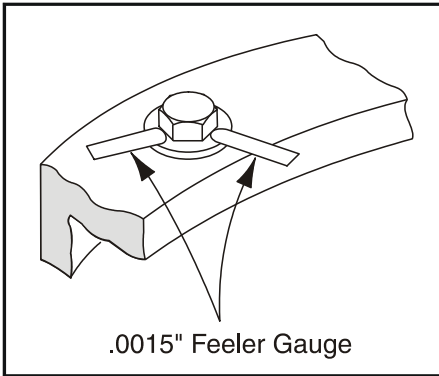

Figure 3-46. Swing Bolt Feeler Gauge Check
- b. At the position indicated on Figure 3-46. try to insert the 0.0015" feeler gauge between the bolt head and hardened washer at the arrow indicated position.